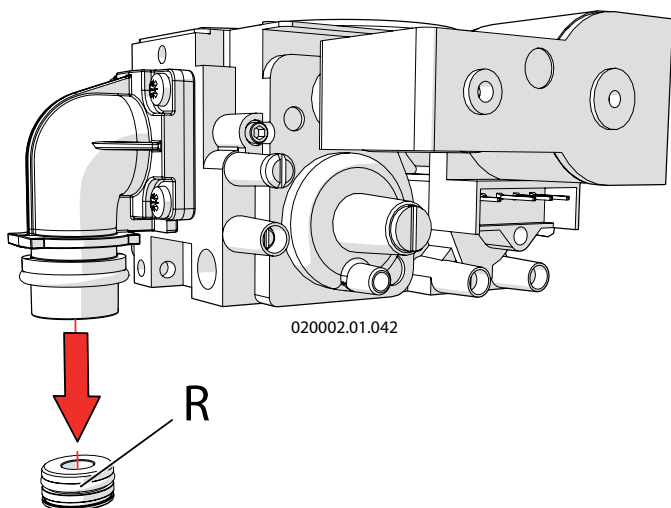

Figure 6-5 - Replacing the gas nozzle
18. - replace the gas nozzle “R” (see figure 6-5) with an appropriate one according to that stated in figure 6-8 under “Diameter of the gas nozzle”;